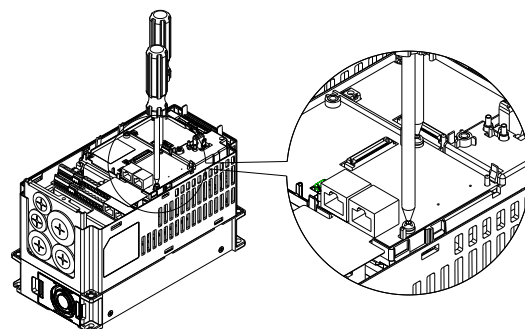

Figure 3
- Ensure the PCB is securely placed, and then fix the screws with 6–8 kg-cm of torque (5.21–6.94 lb-in.) as shown in Figure 3.